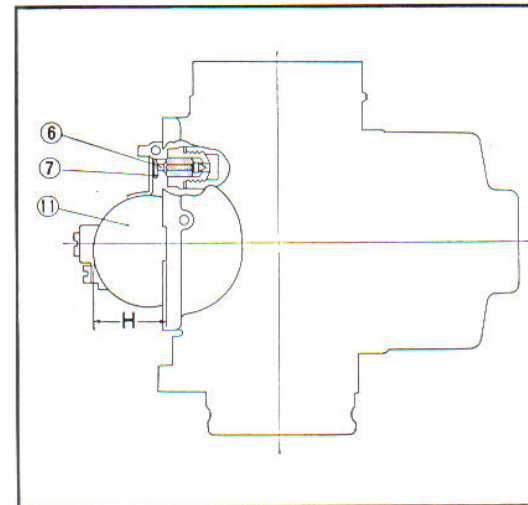

Fig. 3.132 Fuel level adjustment
It is difficult to measure the height of the fuel level itself; thus, the fuel level is decided by the height of the float (Fig. 3.132). Placing the carburetor vertically as shown in Fig. 3.132 and lightly lifting and lowering the float (11) by finger, determine the position where the float valve (6) head contacts slightly the float arm (7) or clearance of about 0.1 mm is left between them, and then measure "H" with a level gauge. If "H" is distorted from the rated value, adjust it by bending the float arm (7) carefully.